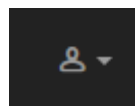

Figure 10. Partner Portal (Profile icon)
3. Hover the mouse cursor over the Profile icon in the upper right-hand corner of the web page (**Figure 10 (page 44)**). Click the **Account** option.